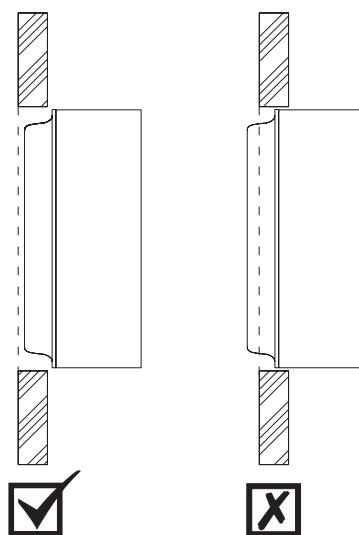

Figure 1 - SYRSP Mounting Details
4. Orient and mount station to plaster ring as shown in *Figure 1*.